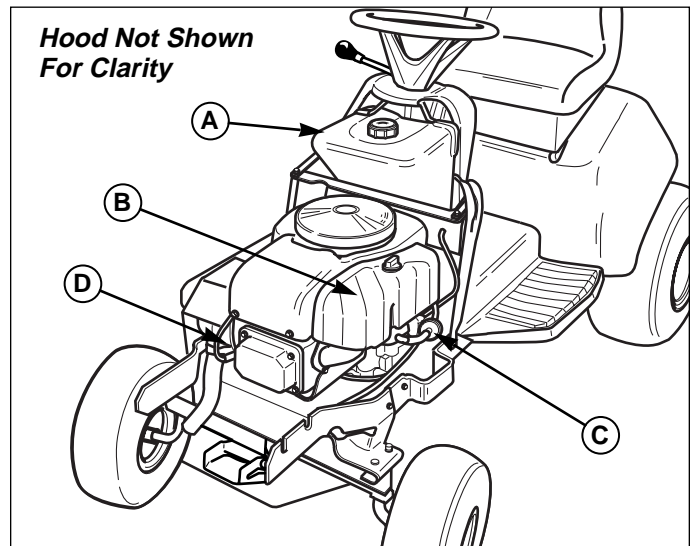

Figure 9. Engine Compartment
1. Remove the cap from the fuel tank (A, Figure 9).
The fuel filter (C, Figure 9) is located in the fuel line between the fuel tank and the carburetor (left side of engine).
3. Using a pliers, open and slide hose clamps from fuel filter (C, Figure 9).